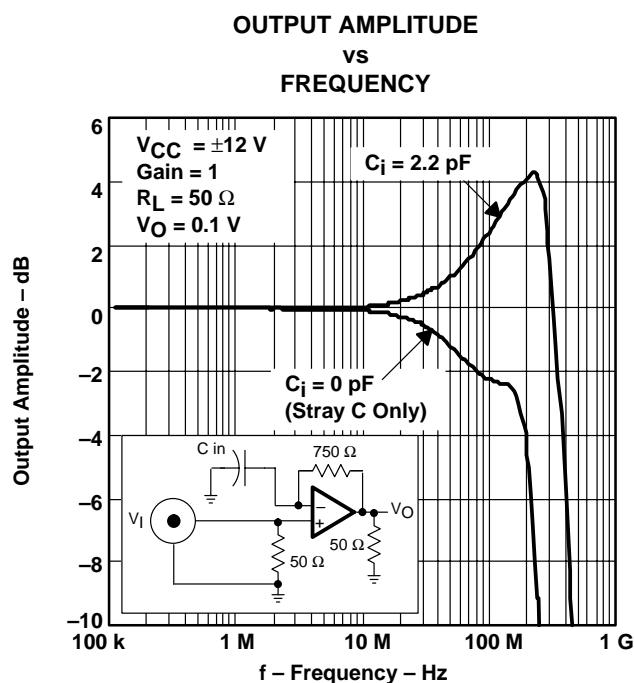
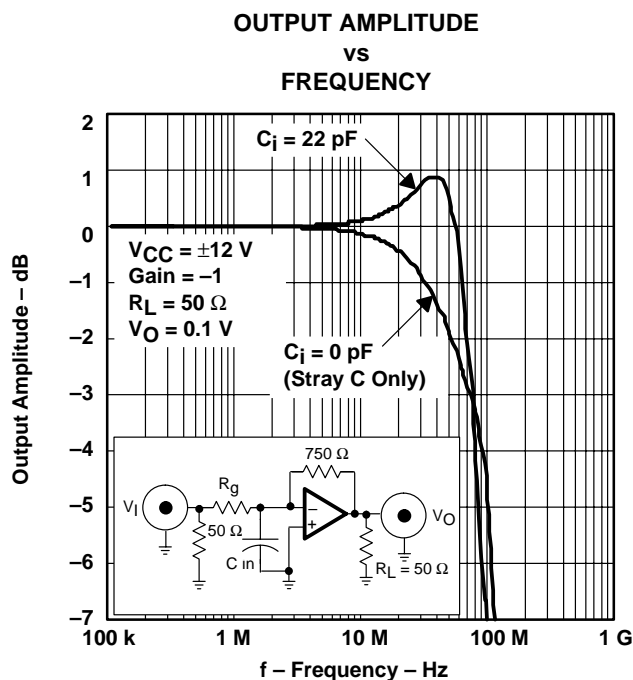

Figure 41
Figure 42
- Input stray capacitance – To minimize potential problems with amplifier oscillation, the capacitance at the inverting input of the amplifiers must be kept to a minimum. To do this, PCB trace runs to the inverting input must be as short as possible, the ground plane must be removed under any etch runs connected to the inverting input, and external components should be placed as close as possible to the inverting input. This is especially true in the noninverting configuration. An example of this can be seen in Figure 41, which shows what happens when a 2.2-pF capacitor is added to the inverting input terminal in the noninverting configuration. The bandwidth increases dramatically at the expense of peaking. This is because some of the error current is flowing through the stray capacitor instead of the inverting node of the amplifier. While the device is in the inverting mode, stray capacitance at the inverting input has a minimal effect. This is because the inverting node is at a virtual ground and the voltage does not fluctuate nearly as much as in the noninverting configuration. This can be seen in Figure 42, where a 22-pF capacitor adds only 0.9 dB of peaking. In general, as the gain of the system increases, the output peaking due to this capacitor decreases. While this can initially appear to be a faster and better system, overshoot and ringing are more likely to occur under fast transient conditions. So, proper analysis of adding a capacitor to the inverting input node should always be performed for stable operation.